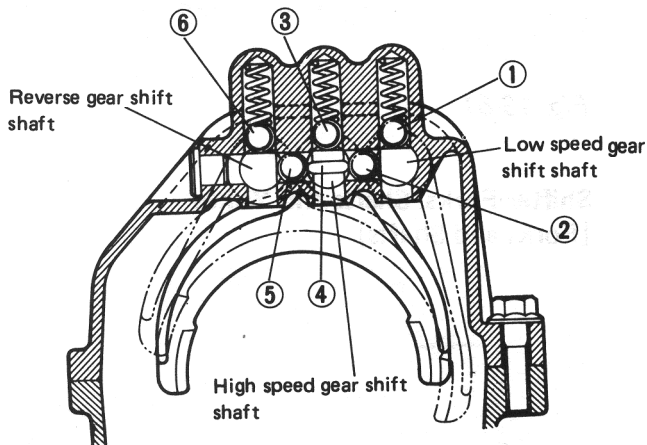

Fig. 13-64
Note that 3 shift shafts individually have a locating ball and locating spring, and that 2 interlock balls and an interlock roller are used between shafts as shown in Fig. 13-64.
- 1) Install 3 locating springs into 3 holes in upper case. Fit locating ball (① in Fig. 13-64) on top of locating spring in hole.
- 4) Install interlock ball (② in Fig. 1364) and locating ball (③ in Fig. 13-64) in upper case. After installing interlock roller (④ in Fig. 1364) in high speed gear shift shaft and insert shaft into upper case as described in 2) and 3).
- 5) Install interlock ball (⑤ in Fig. 1364) and locating ball (⑥ in Fig. 13-64) into upper case. Then insert reverse gear shift shaft into upper case as described in 2) and 3).